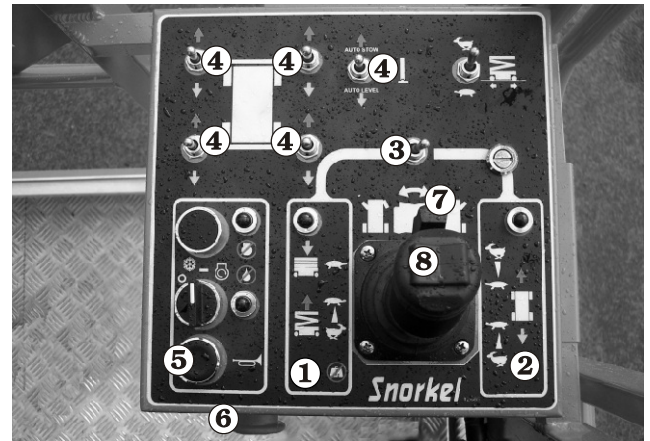

Figure 7.28 - Platform Controls
Check all of the lift, drive ②, steer ③, and stabiliser ④ functions from the platform control box to see that they cause the RT to move the way it should (see Figure 7.28). (for correct operating procedures see the Operation chapter).
Press the operator horn ⑤ (see Figure 7.28) to see that it works.
Pay particular attention to the **Emergency Stop** switch ⑥ to see that it turns the engine off when struck (see Figure 7.28).
Pay particular attention to the **Safety Control** ⑦ to see that it deactivates the **Joystick Controller** ⑧ when the safety control ⑦ is released (see Figure 7.28).